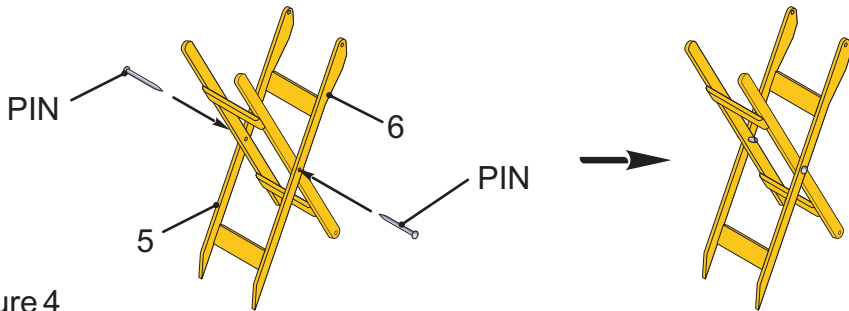

Figure 4
- 4 Scissors Links Assembly (see Figure 4, below)
- A Slide the inner scissors link (6) inside the outer scissors link (5) until the central pivot holes are aligned.